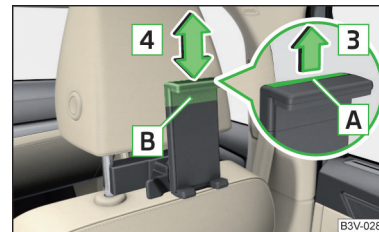

Fig. 137 Adjusting the holder size
- › To **adjust the holder size**, pull out the securing tab **A** in the direction of arrow **3** and push the part **B** in the direction of arrow **4** to the desired position » Fig. 137.